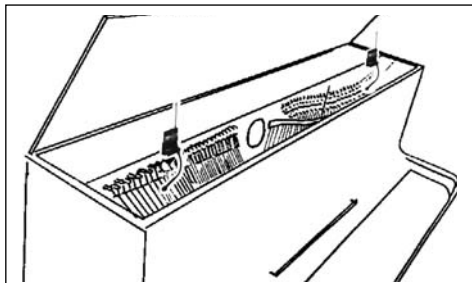

Fig. 6: Using two C 519s to mic up an upright piano.
1. Clamp one microphone on the frame above the bass strings. Refer to fig. 6.